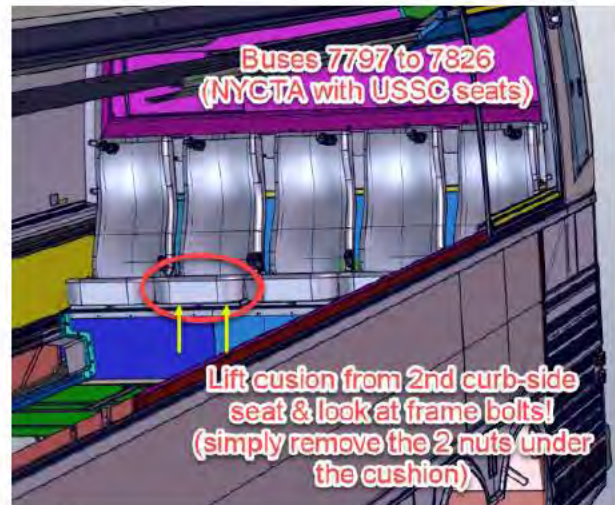

Figure1
1. Remove the seat base from the 2nd curb side rear bench seat (red circle Figure1).
- Unscrew the two screws retaining the seat base to the frame (arrows Figure1).